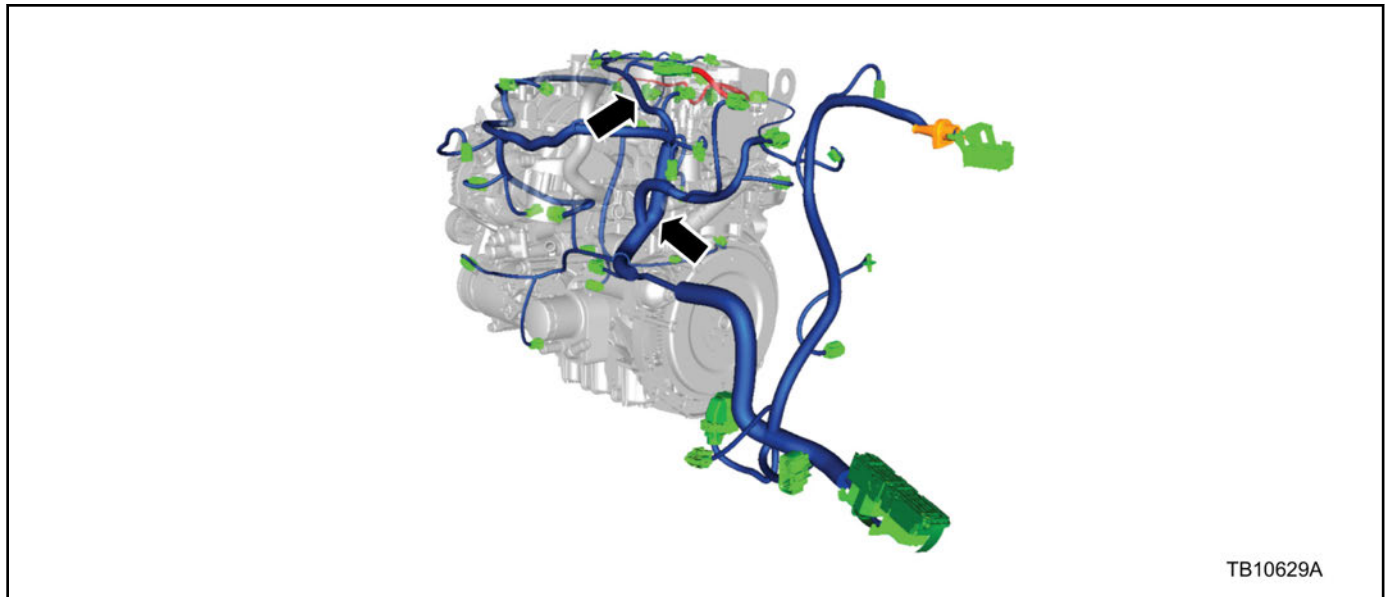

Figure 1 - Article 15-0005
- a. For 2013 vehicles, splice S123 can be in one of two locations. Splice S123 will have 5 circuits that are multi colored one green/violet (FRP), two white/brown (MAP and Sig Rtn to PCM), one brown/green (ECT) and one green/brown (TFT). (Figure 1)
- b. For 2014 vehicles, the splice S123 will have 6 circuits that are multi colored one green/violet (FRP), one white/brown (Sig Rtn to PCM) , one brown/green (ECT), one green/brown (TFT) and two blue/green (MAP and CHT). Refer to 2014 Wiring Diagram, Section 151-5. (Figure 1 Lower Arrow)
- (1) Remove enough harness wrap to locate and replace the splice.
- (2) Solder before sealing the repair with heat shrink tube.